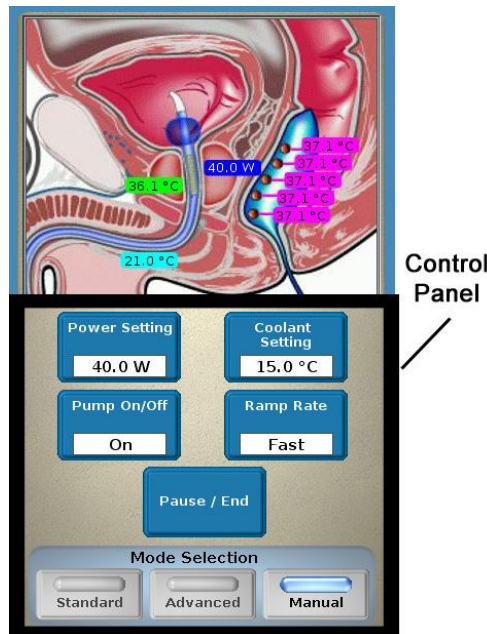

Figure 3-38. Manual mode
2. Adjust the power setting, pump ON/OFF, coolant setting, and ramp rate from the Control Panel (Figure 3-38), if desired: